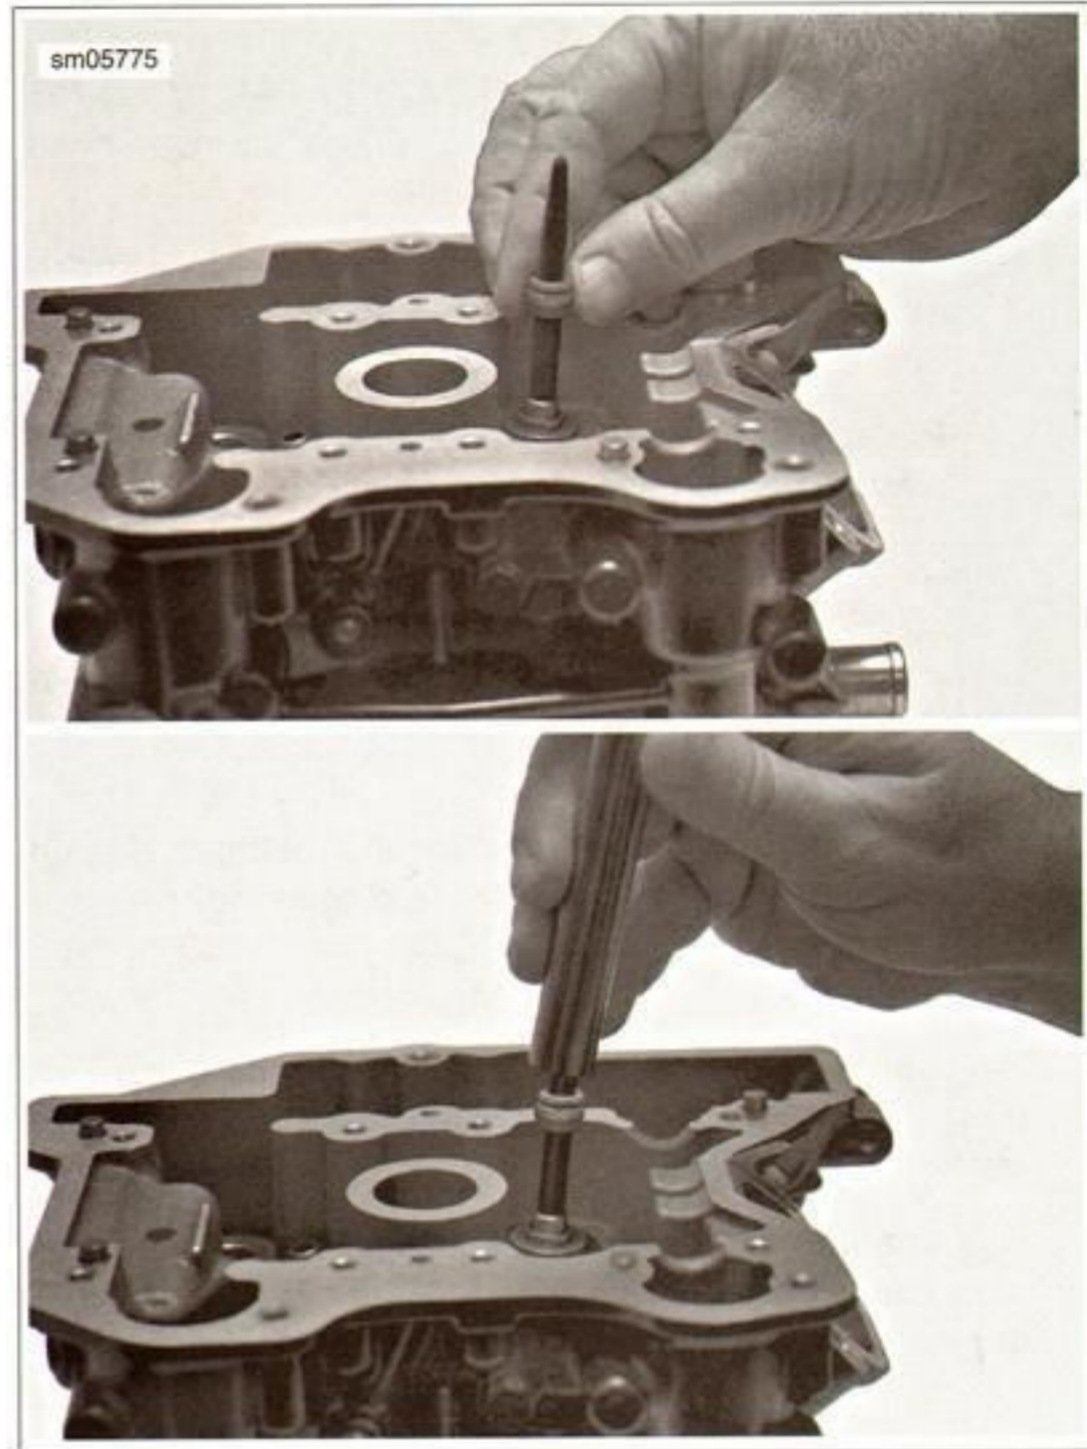

Figure 3-92. Valve Seal Installation
4. See Figure 3-92. Place VALVE GUIDE SEAL INSTALLER (Part No. B-49053) tapered pin over valve stem and position **new** seal on the tapered pin. Drive seal into position.